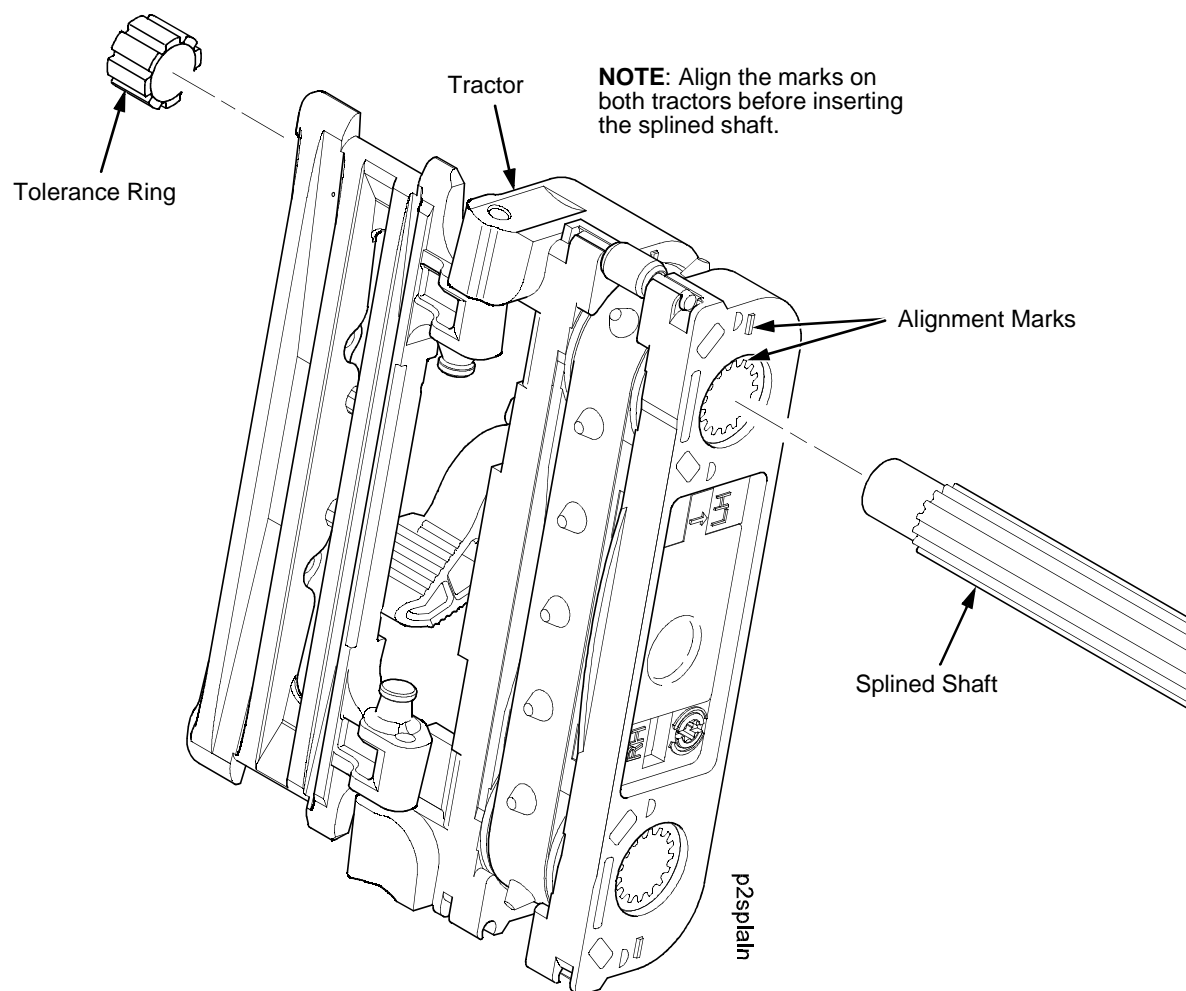

Figure 31. This figure shows how to install the splined shaft into the paper feed tractors.
1. Open the doors on the left and right tractors. Position the tractor belts so the alignment marks are at the top on both tractors. (See Figure 31.)
2. Grasping the vertical adjustment knob, slide the splined shaft through the right side plate and tractors. Make sure the same spline passes the marked groove on each tractor. (See Figure 31.)
3. Install the tolerance ring on the left end of the splined shaft (page 467, item 5).
4. Insert the tolerance ring lead-in portion into the sealed ball bearing in the left tractor shaft plate (page 467, items 3, 5, and 6) while sliding the ball bearing into the right side plate. Push the splined shaft to the left until the flange on the ball bearing is in solid contact with right side plate. The splined shaft will protrude about 1/16 inch from the ball bearing.
5. Install the right tractor shaft plate and screw (page 467, items 7 and 8) by first sliding the upper “fingers” up and against the flange on the ball bearing, then sliding the rectangular cutout over the support shaft end, then snapping the U-shaped “spring” behind the tab on the right side plate.
8. Install the paper supports on the splined and support shafts. (See page 467, item 4.)